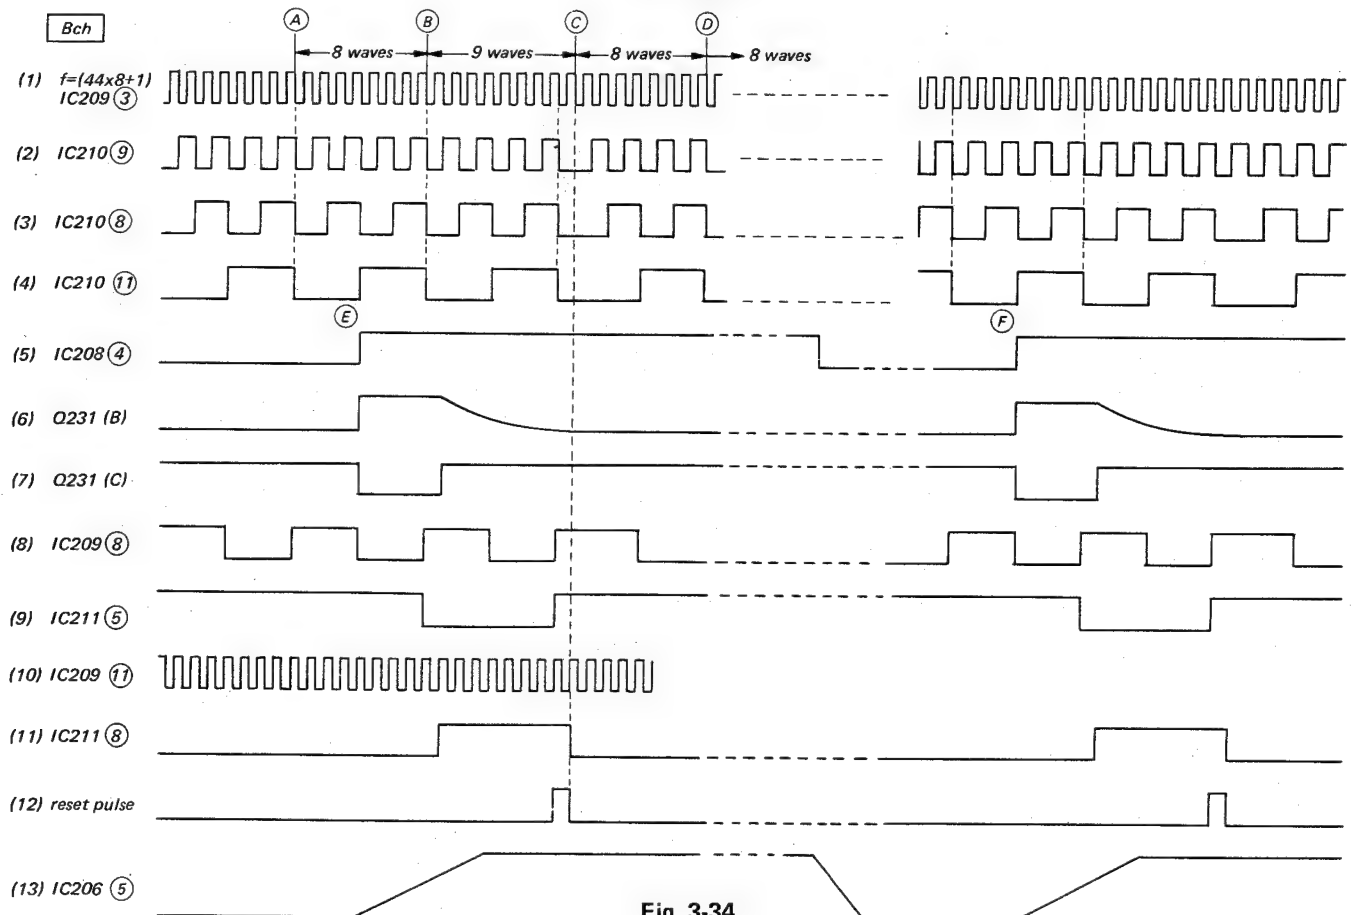

Fig. 3-34
The operation of the B channel is as follows. Since RF switching pulse is approx. 4 V, Q235 conducts and pin 6, output of NAND gate 1 in IC209, becomes 5 V, the wave form at pin 8 of the NAND gate 2 output is the one represented by (8) which is the inverted one of the wave form at pin 11 of IC210. The following operation is identical with the one in the A channel. The reset pulse of IC208 is represented by (12) in Fig. 3-34 and the number of wave form (1) in the B to C segment is 9 and in the other segments it is 8.